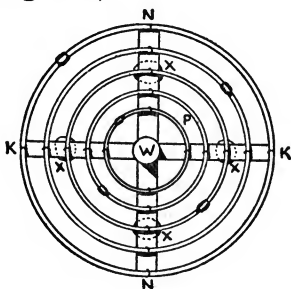

Fig. 22.
For accuracy bait-casting a target is best. The simplest form may be made as follows: Join two 1x4-inch boards in the center, as shown by KK, NN, Fig. 22, and paint them green. At their intersection attach a six-inch water-tight tin can (W), painted red. Encir-
cling this, attach to the four bars a half-inch water-tight gas-pipe ring (P) 30 inches in diameter, painted white. Four staples may be used in making it fast to the bars. Wire will catch the lures. One foot from this circle attach a similar one $4\frac{1}{2}$ feet in diameter, and so on until five are in place. As all parts of the target should be just awash, with only the red bullseye showing distinctly, regulating devices are necessary. Four paint cans attached solidly to the bars underneath will serve, provided they do not leak. If the target floats too high, let a little water into the cans. Screw-top cans, are, for this reason, the handiest form. (See X, Fig. 22.).
Under the target W (Fig. 22) attach a large screw-eye, and to this make fast the center of a suitable line. Attach snap-hooks to one part of the line, say 60, 80, and 100 feet from center of target. If the 60-foot hook is made fast to the ring on the platform, the other end of the line is run through a pulley-block on a float anchored about 110 feet from the platform, then back to the platform, where it is belayed. When all contestants have finished casting at 60 feet, the 60-foot snap is cast off, the 70-foot snap attached to the ring on the platform, then, by hauling on the other end of the line, the target is moved out to 70 feet, and so on up to